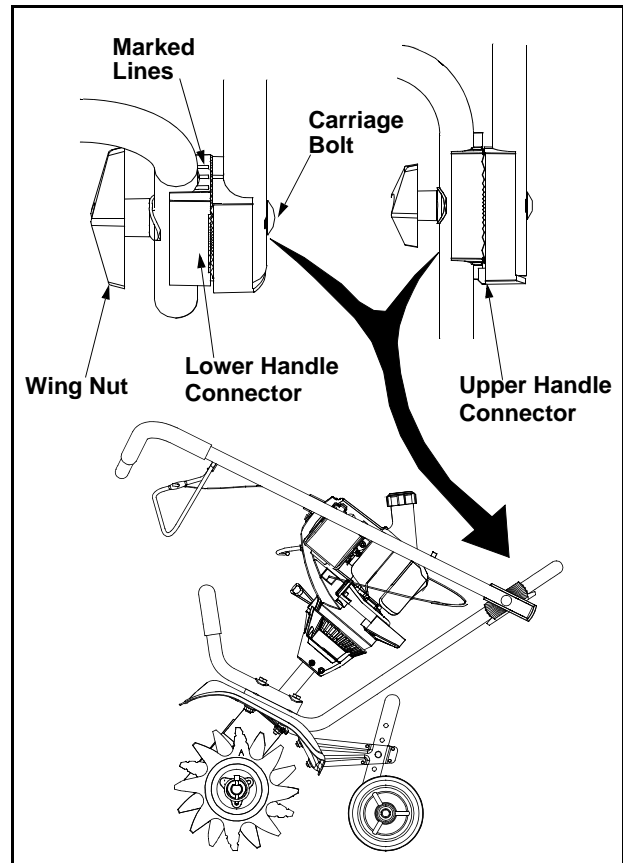

Figure 1
- Loosen each wing nut enough to separate the plastic connectors between the upper and lower handle. Gently lift up and pull out on the upper handle to raise the handle toward the operating position. See Figure 1.